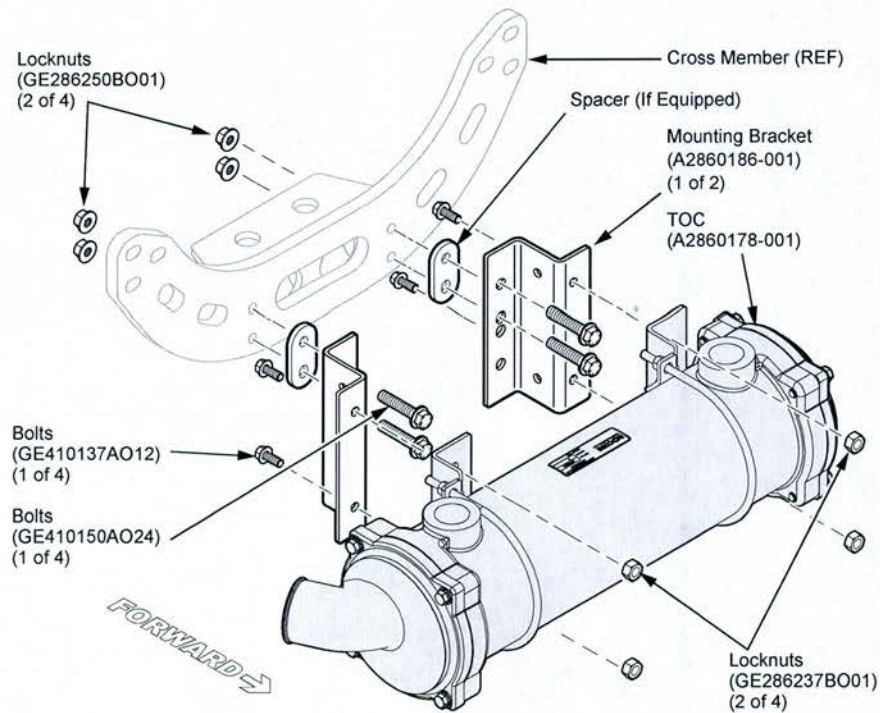

Figure 7
13. Install the 2 mounting brackets (A2860186-001) to the cross member utilizing 4 bolts (GE410150AO24), 2 spacers (if equipped) and 4 locknuts (GE286250BO01). Tighten to 45 ft-lb (61 N-m) of torque (see Figure 7).
14. Install the new TOC (A2860178-001) onto to the mounting brackets utilizing 4 bolts (GE410137AO12) and 4 locknuts (GE286237BO01). Tighten to 45 ft-lb (61 N-m) of torque (see Figure 7).